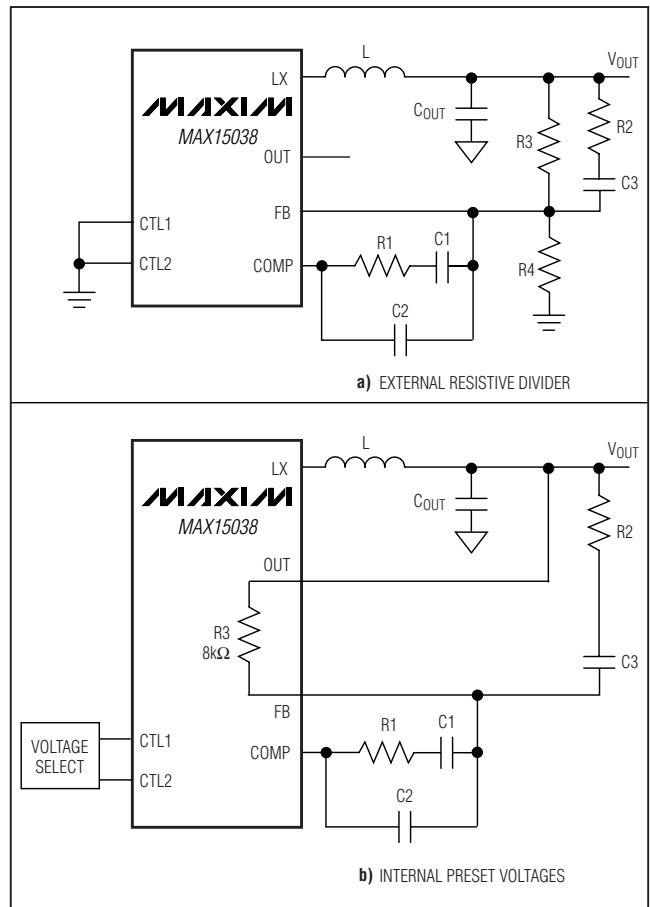

Figure 3. Type III Compensation Network
The high switching frequency range of the MAX15038 allows the use of ceramic output capacitors. Since the ESR of ceramic capacitors is typically very low, the frequency of the associated transfer function zero is higher than the unity-gain crossover frequency, f_C , and the zero cannot be used to compensate for the double pole created by the output filtering inductor and capacitor. The double pole produces a gain drop of 40dB/decade and a phase shift of 180°. The compensation network error amplifier must compensate for this gain drop and phase shift to achieve a stable high-bandwidth closed-loop system. Therefore, use type III compensation as shown in Figures 3 and 4. Type III compensation possesses three poles and two zeros with the first pole, f_{P1_EA} , located at zero frequency (DC). Locations of other poles and zeros of the type III compensation are given by: